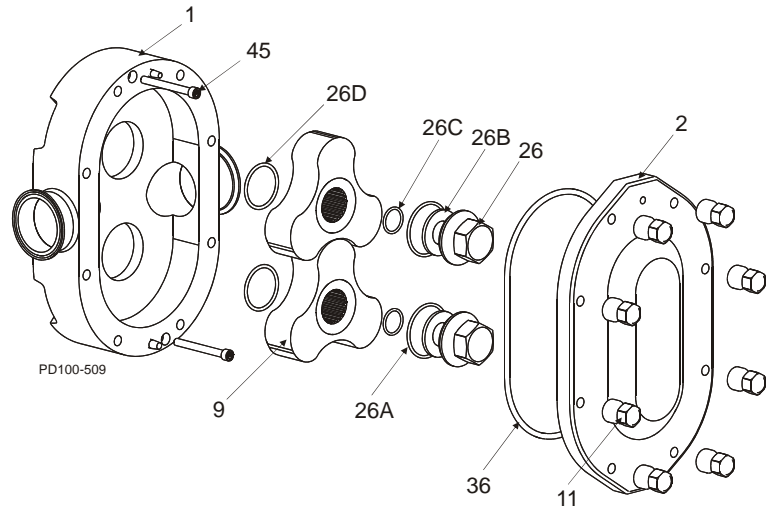

Figure 31 - Exploded View of Fluid Head
Table 3: Callout table for Figure 31
1. Remove the cover nuts (Figure 31, item 11) from the cover (item 1).
2. Using a soft hammer, tap the cover (Figure 31, item 2) off the body studs and dowel pins.
4. Remove and inspect the cover o-ring (Figure 31, item 36).